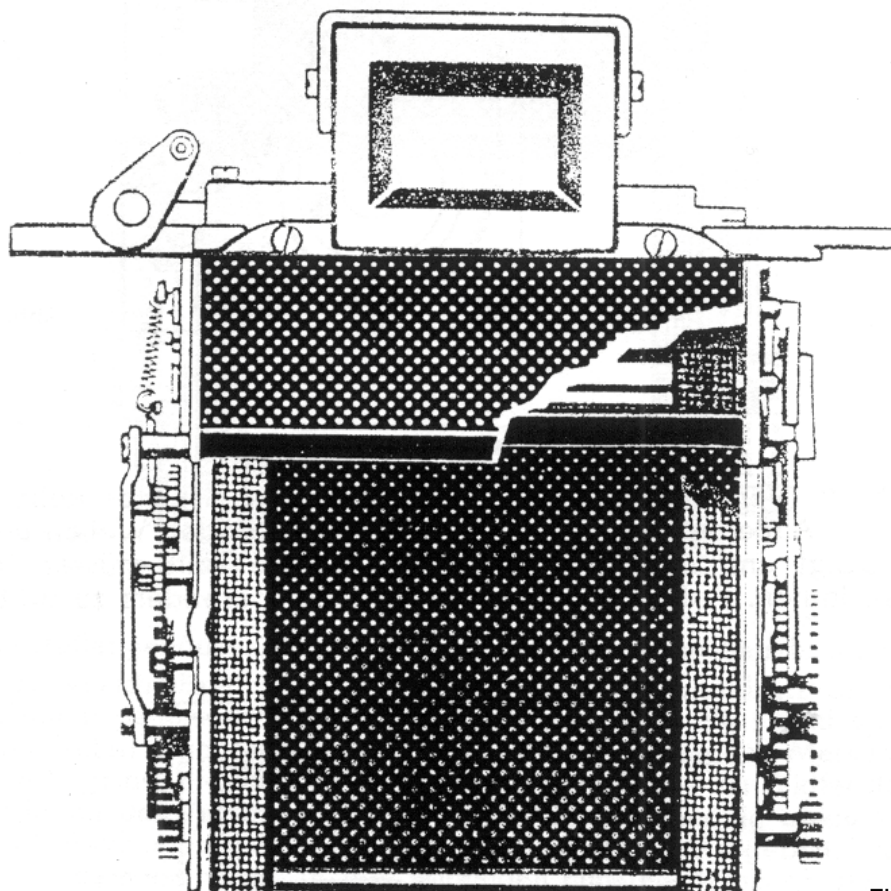
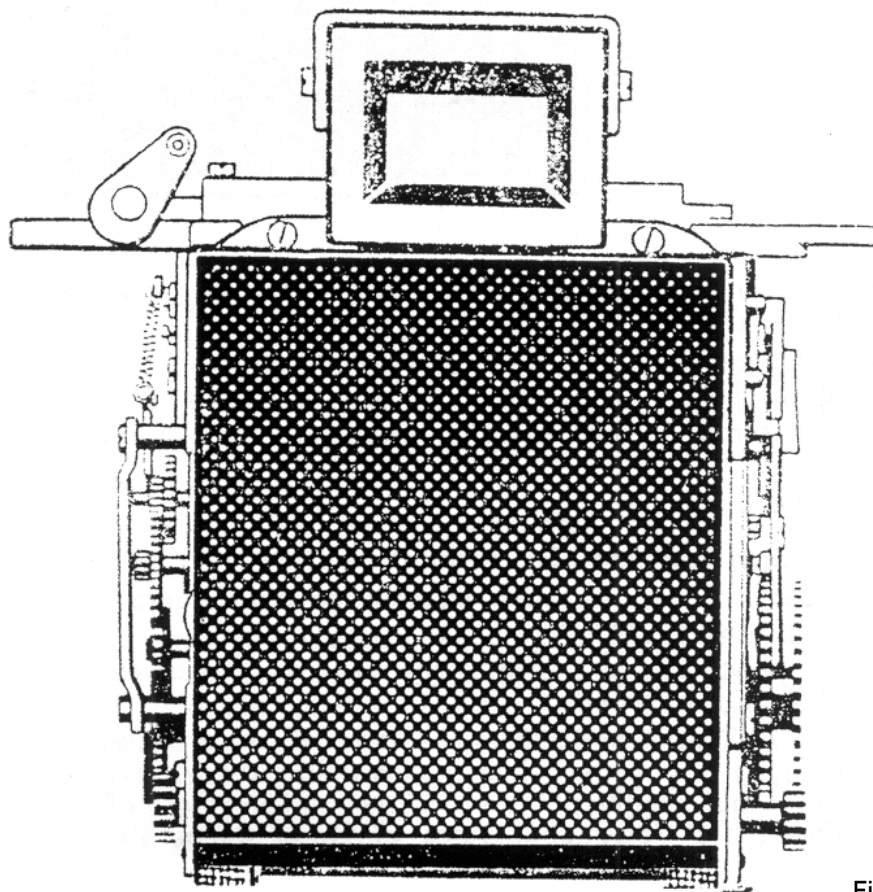
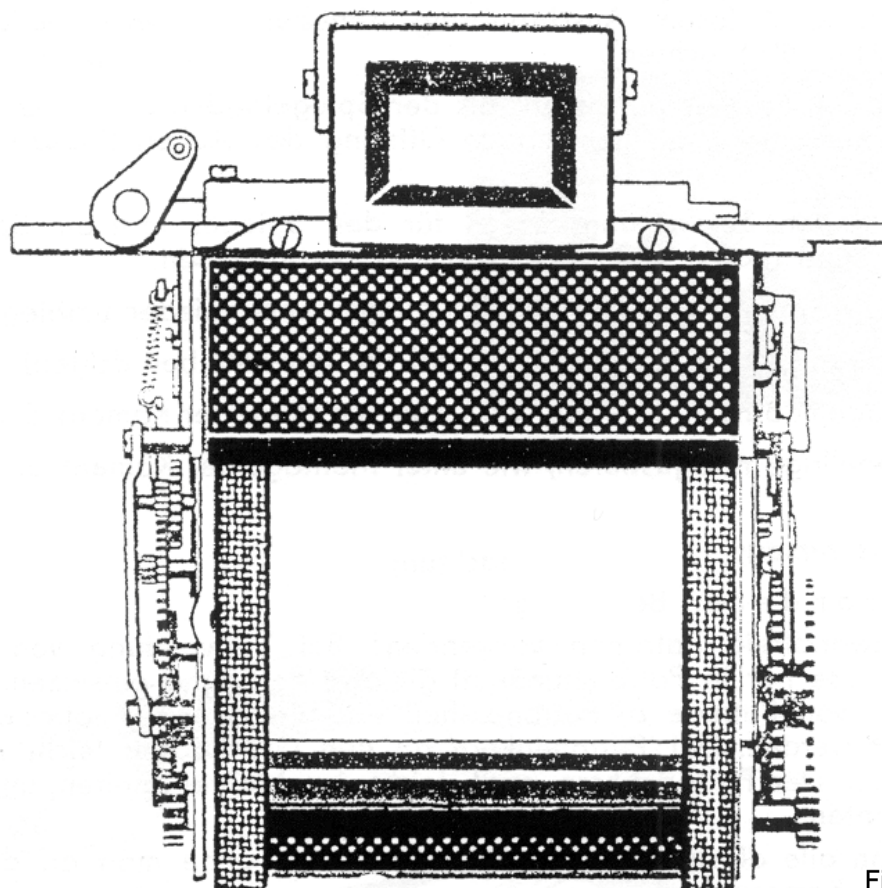

Fig. 7
Fig. 9
Fig. 10
- g) Bring the curtain-rods to the marked positions (see also Figs. 7, 9, and 10) and fit and screw down the pinions (as marked) (beforehand turn the shutter-wheels 370.07 U7 and 370.07 U8 towards the left to the firm stop, thereby unlatching the shutter release lever 370.07-11).
- k) Turn the curtain spindle for the first curtain to the left [?] till the curtain rod comes to stand as illustrated in Fig. 7. In this position fit its pinion and screw together.
- a) The curtains 370.03 U5 and 370.03 U9 must be arranged as described in Elimination of Certain Faults C.3, Curtains unserviceable (see Fig.7). This rule must be observed, since the uniformity of the operation of the shutter is to a large extent dependent on it. Curtains arranged thus appear as in Fig. 9 (shutter cocked) and Fig.10 (leading curtain up). In